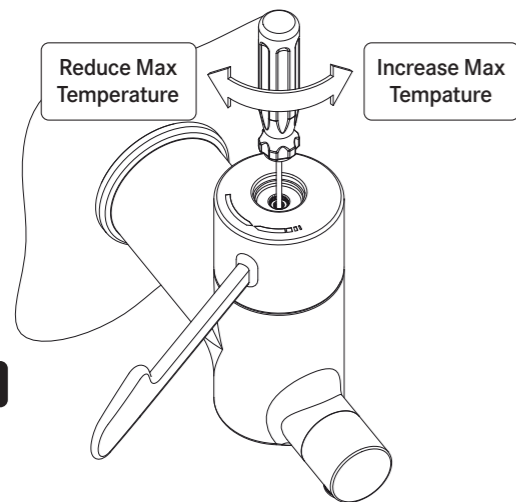

Fig 11
- Using a 3mm slotted screwdriver, insert through the hole and locate the setting screw (Fig 11).